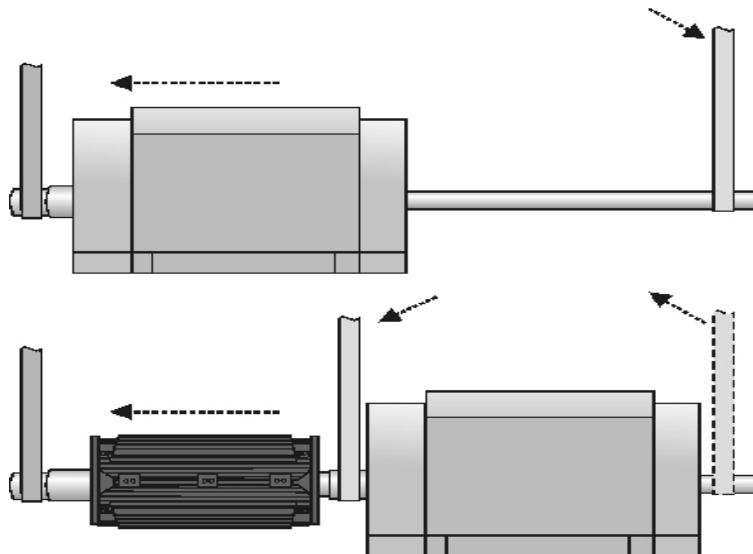

Figure 23: Floating the rotor
3. Lift up the rotor, and move it out, gently resting the rotor on the stator as the slings are moved down the pipe for the next lifting stage. (See figure 23).